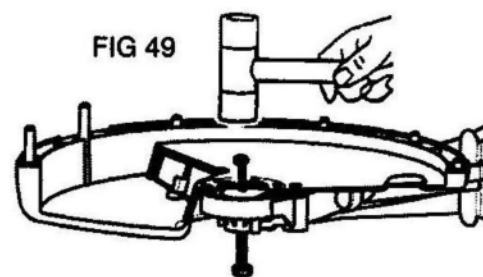

FIG 49
2. Hold unit as shown in Fig. 49 and tap shaft through using a 3/8 bolt or similar so that bolt replaces shaft and maintains alignment and contains washers, spacer and gear inside housing - DO NOT TURN HOUSING OVER.